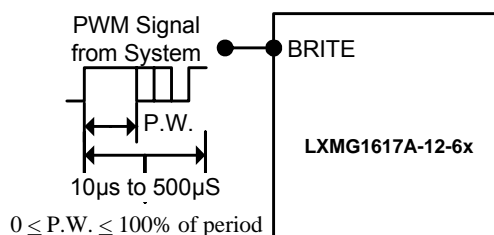

Figure 1A – PWM Brightness Control
- The brightness control may be a voltage output DAC or other voltage source, a digital pot or 500K manual pot. The inverter contains an internal 215K pull-up to 3V to bias the pot, if desired; add a resistor to set the lower threshold voltage above the absolute minimum dim level capability. A 3.3V Logic Level PWM signal from a micro-controller may also be used as shown in Figure 1A.